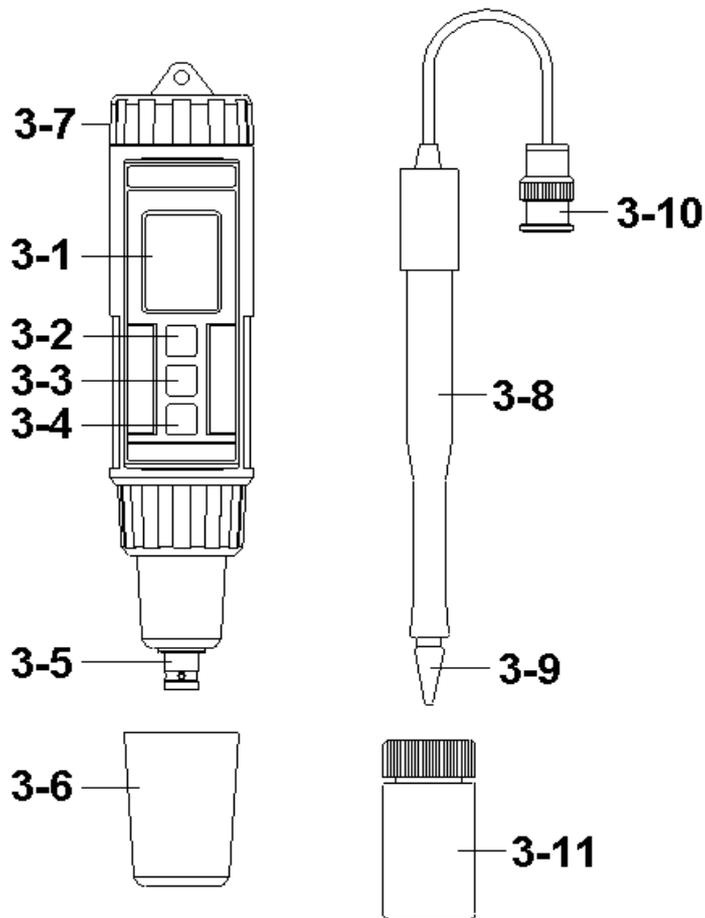

Fig. 1
- 1)Connect the pH electrode plug ( 3-10, Fig. 1 ) to the BNC socket ( 3-5, Fig. 1 ) and place electrode into pH 7.00 buffer solution.
- 2)Power on the instrument by pressing the " Power button " ( 3-2, Fig. 1 ).
- 3)Press the " Hold button " ( 3-3, Fig. 1 ) once. the display will show the " HOLD " symbol. Press the " ▼ button " ( 3-3, Fig. 1 ) once, the display will show following screen in sequence.
- \* When the LCD show the screen 2, it allow the user to adjust another calibration value precisely ( for example 7.01, 6.99... ) by pressing the " ▲ button " ( 3-2, Fig. 1 ) , " ▼ button " ( 3-4, Fig. 1 )'
- \* After calibration, the " Electrode sensing head " ( 3-9, Fig. 1 ) should insert into the " Protection bottle " ( 3-11, Fig. 1 ).
- 1) Connect the pH electrode plug ( 3-10, Fig. 1 ) to the BNC socket ( 3-5, Fig. 1 ) and place electrode into the measured solution.
- 2) Power on the meter by pressing the " Power button " ( 3-2, Fig. 1 ).
*\* After calibration, the " Electrode sensing head " ( 3-9, Fig. 1 ) should insert into the " Protection bottle " ( 3-11, Fig. 1 ).*
During the measurement, press the " Hold button " ( 3-3, Fig. 1 ) once will hold the measured value & the LCD will display a " HOLD " symbol.
During the measurement, press the " Display reverse button " ( 3-4, Fig. 1 ) once will reverse the display direction for the user convenience.
2) To replace the battery, rotate and remove the " Battery Cover " ( 3-7, Fig. 1 ), take out the old batteries, install new batteries :